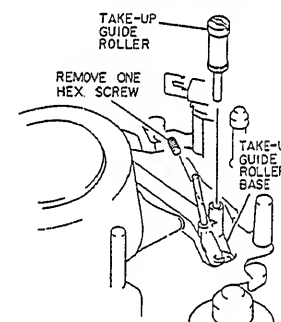

Fig. 2-75
1. Remove one (1) hex screw holding the take-up guide roller. (See Fig. 2-75)